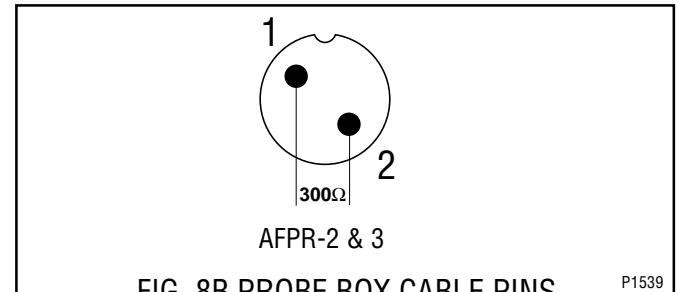

FIG. 8B PROBE BOX CABLE PINS
4. Check the resistance across the box cable pins, see Fig. 8B.
5. With the probe box switch in the "LOW" position check the ohms across the pins, refer to Fig. 8B.